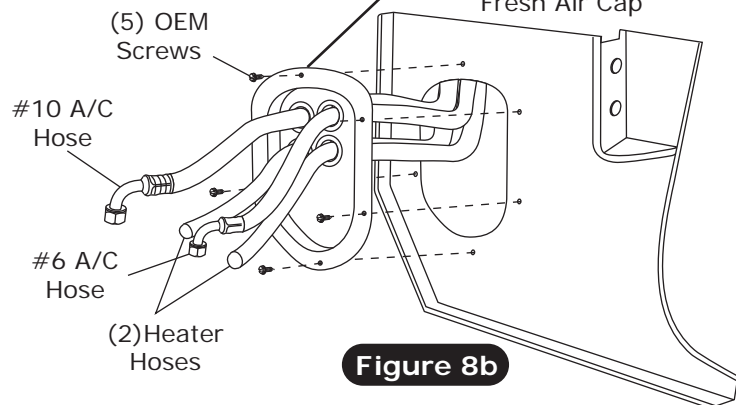

Figure 8b
4. Secure kick panel fresh air cap using OEM screws as shown in Figure 8b, below.